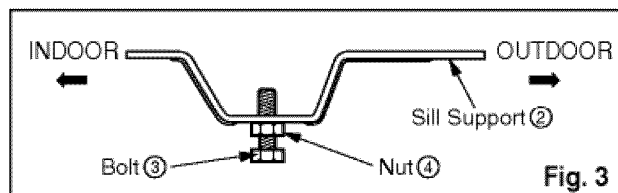

Fig. 3
3. Loosely assemble the sill support using the parts in Fig. 3.